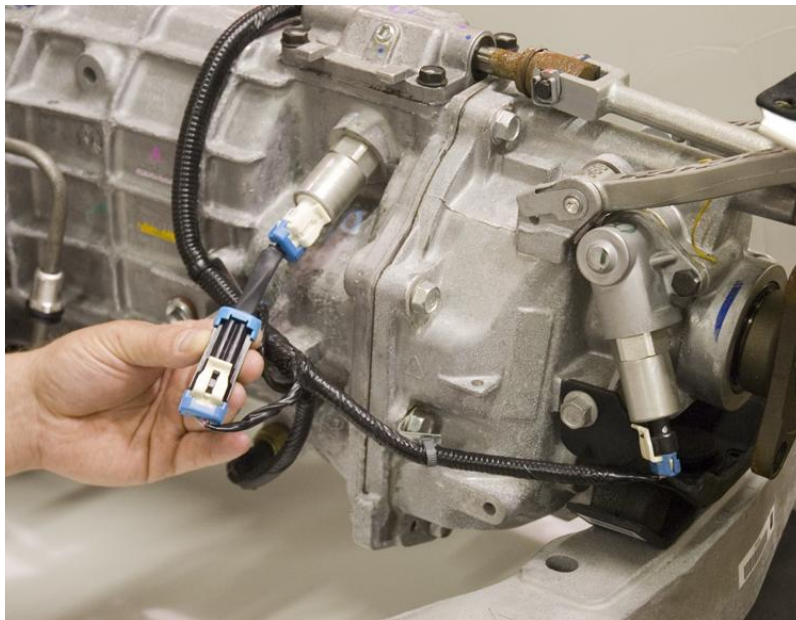

Figure 2: Skip Shift Eliminator Installed
3. Install the white connector from the Ship Shift Eliminator onto the skip shift solenoid (transmission end) (See Figure 2).
4. Install the original connector from the vehicle wiring harness into the other connector on the Skip Shift Eliminator (See Figure 2).